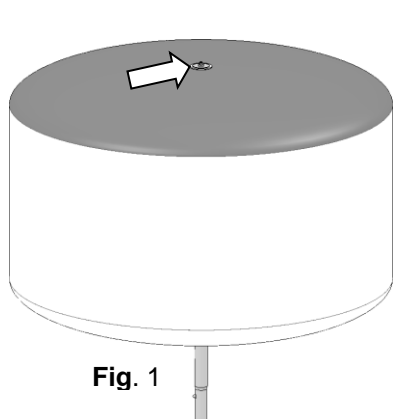

Fig. 1
- ⇒ Unscrew the nut on the top of the envelope. (Fig. 1) Set nut safely aside.